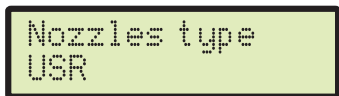

Fig. 62
- First select Nozzles type (ISO or USR, Fig. 62).